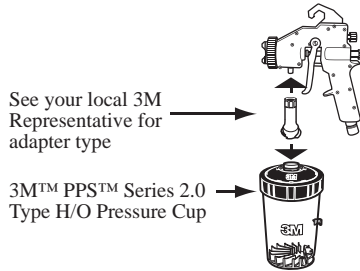

Figure 1
- Requires the use of a 3M™ PPS™ Series 2.0 spray gun adapter (sold separately) to attach the 3M™ PPS™ Series 2.0 Type H/O Pressure Cup to the spray gun. Reference Figure 1.
1. Insert optional 3M™ PPS™ Mix Ratio Film Insert (3) into the 3M™ PPS™ Series 2.0 Type H/O Pressure Cup (1) if desired. Otherwise, insert a 3M™ PPS™ Liner (4) into the 3M™ PPS™ Series 2.0 Type H/O Pressure Cup (1) and add the desired amount of material to be sprayed.
2. Insert a 3M™ PPS™ Series 2.0 H/O Lid (5) onto the 3M™ PPS™ Liner (4) and press down until secured.
3. Align the opening on the Retaining Collar Shroud Assembly (6) with the 3M™ PPS™ Series 2.0 H/O Lid and screw the Retaining Collar clockwise onto the 3M™ PPS™ Series 2.0 Type H/O Pressure Cup (1) and hand-tighten.
4. If the material will not be sprayed immediately, a 3M™ PPS™ Series 2.0 Plug (7) can be inserted into the lid spout to seal contents.
5. When ready to spray the contents, remove 3M™ PPS™ Series 2.0 Plug (7) if used, and connect the spray gun with the previously installed 3M™ PPS™ Series 2.0 Adapter to the 3M™ PPS™ Series 2.0 Type H/O Pressure Cup. Reference Figure 1.
6. Attach the cup pressure hose (2) from the spray gun to the pressure port (1b) on the 3M™ PPS™ Series 2.0 Type H/O Pressure Cup. The hose clip on the cup (1a) may be used to hold the hose securely in place while spraying, hose clip included in 3M™ PPS™ Series 2.0 Type H/O Pressure Cup (Large) only.